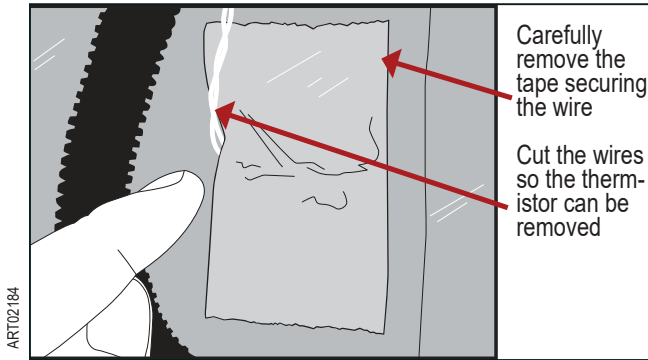

Fig. 1 Carefully untape and cut wires
- Carefully un-tape the area where the thermistor wires enter the back of the refrigerator and cut wires so thermistor can be removed from inside. Refer to Fig. 1.